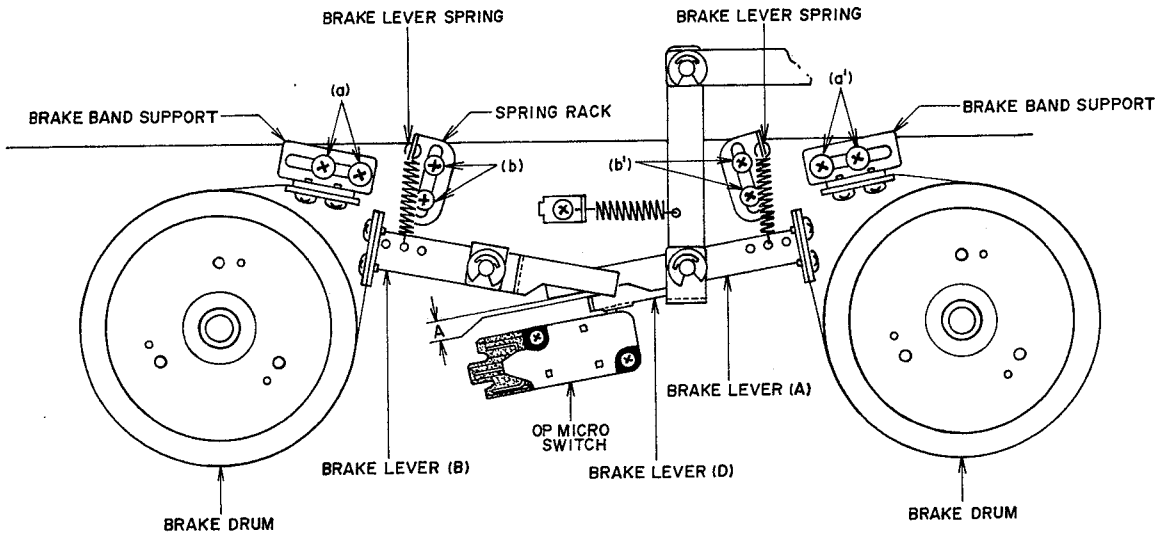

Fig. 17
8. BRAKE BAND POSITION AND BRAKE TENSION ADJUSTMENTS (Refer to Figs. 17, 18)